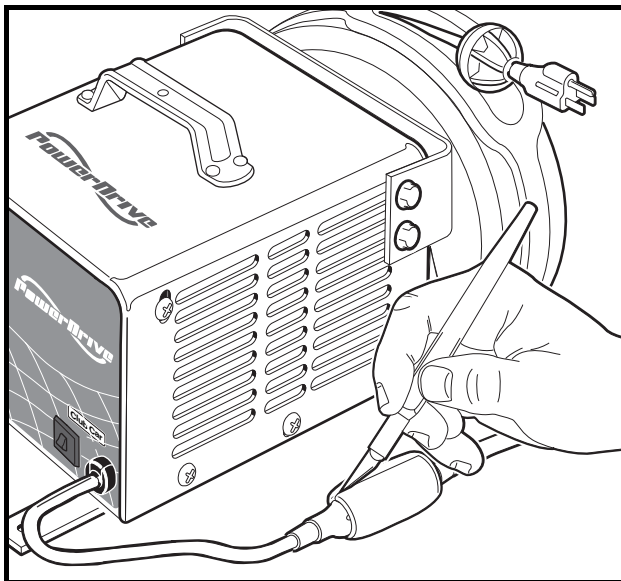

Figure 4-19 Heatshrink Removal
3. Remove the heatshrink from the AC cord connection between the short AC cord and the retractable cord reel by gently cutting the heatshrink tubing (**Figure 4-19, Page 4-20**).